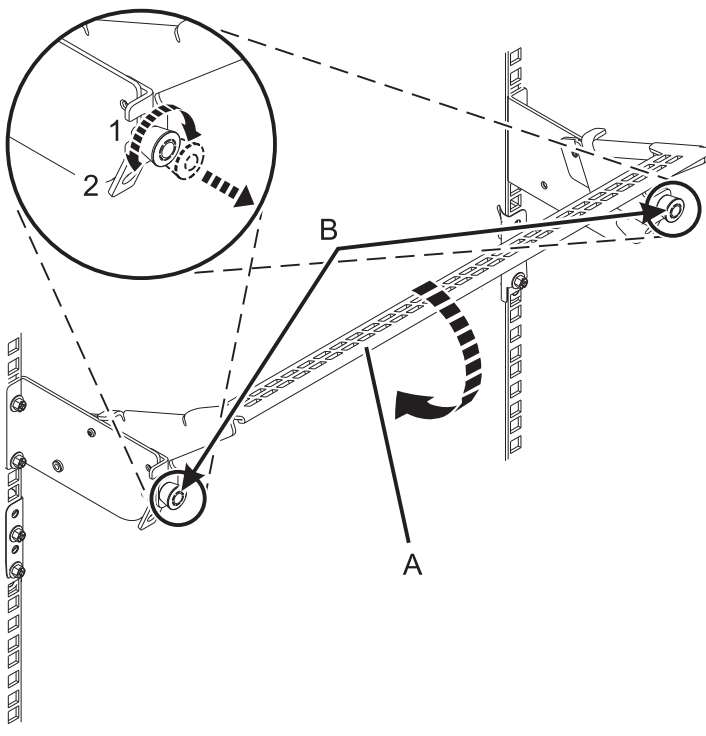

Figure 17. Placing the cable management bracket in the operating position
3. Put the cable management bracket in the operating position. See Figure 17.